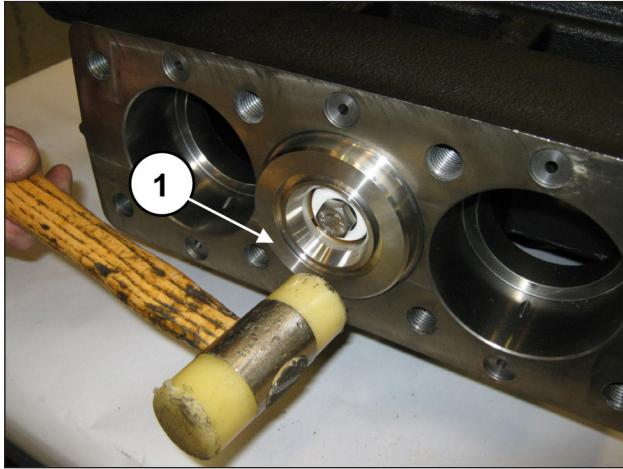

Fig. 188
Ensure that the liner-support block is positioned correctly down to the bottom of the housing (pos. ①, Fig. 188).